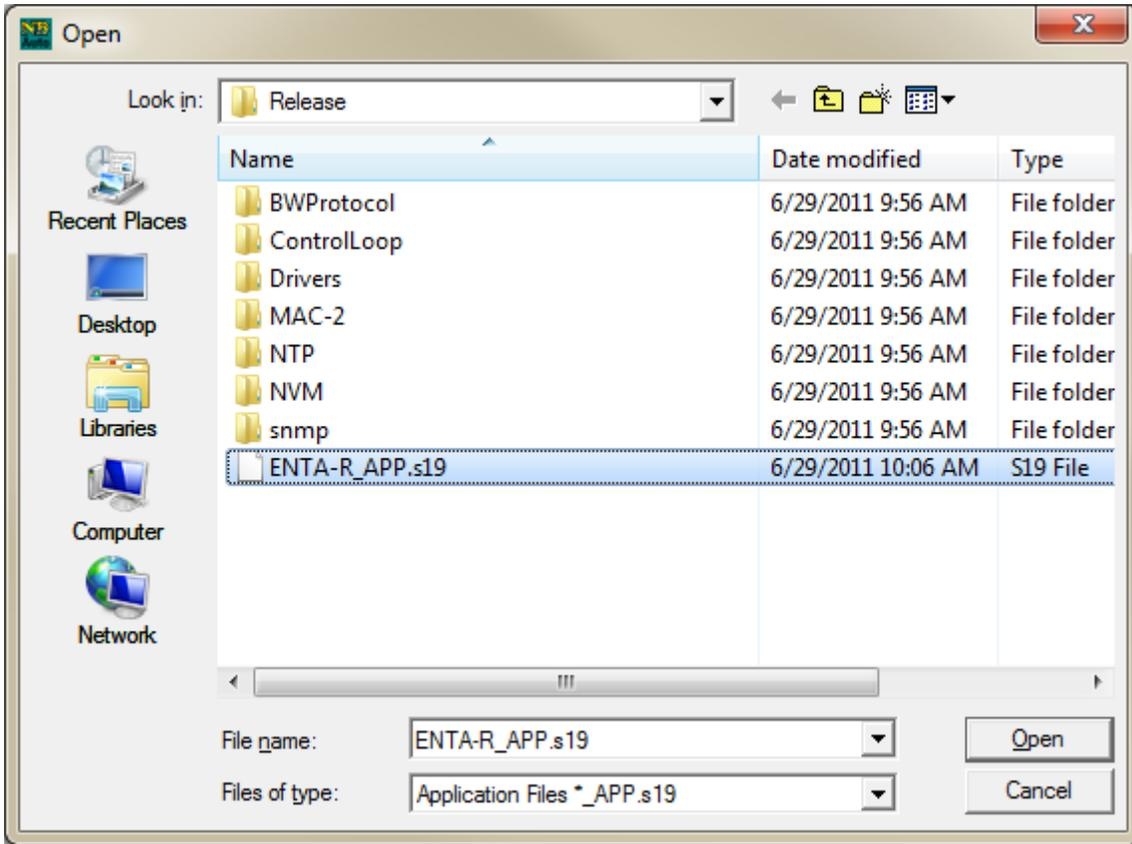

Figure 18 Open Screen
3. Enter the path name to the new released file. If the user does not know the path name, press the Browse button and Figure 18 will be displayed. Locate and click on the file and click the Open button.